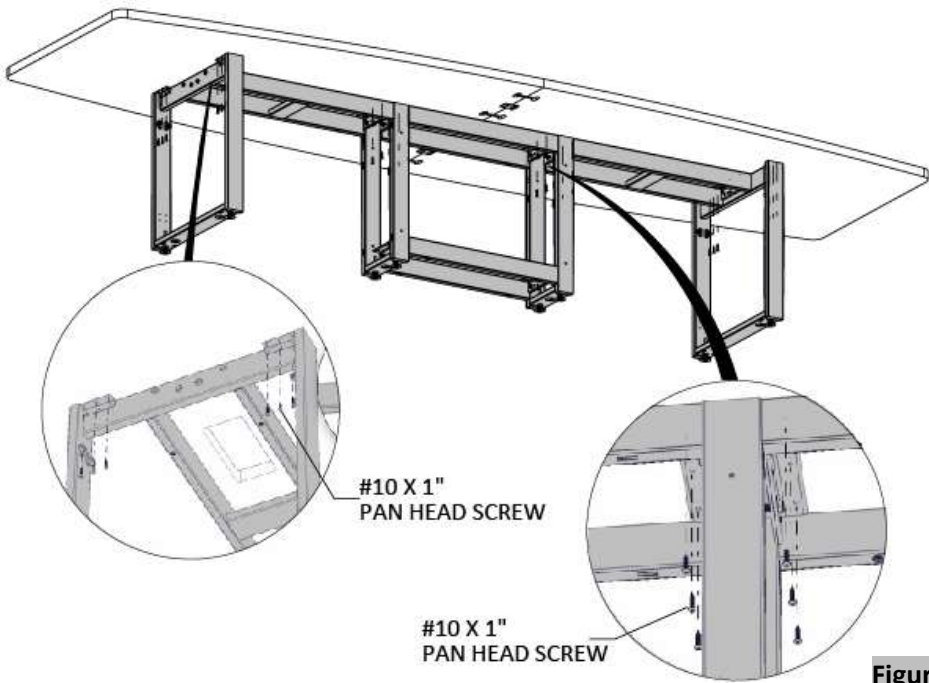

Figure 5
- Securely fasten the table base, using #10 X 1" Pan Head Screws, (Figure 5).